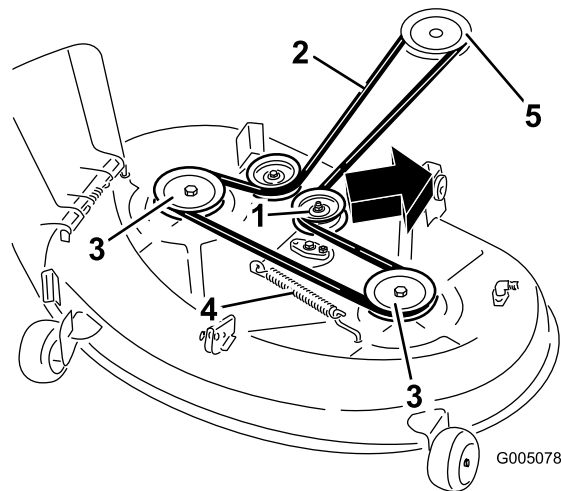

Figure 56
- 5. Pull the idler pulley in the direction shown in Figure 56 and roll the belt off of the pulleys.
- 6. Route the new belt around the engine pulley and cutter deck pulleys (Figure 56).
- 7. Pull the idler pulley in the direction shown in Figure 56 and route the belt onto the idler pulley (Figure 56).